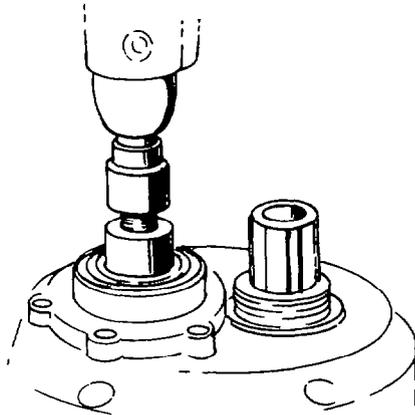

Fig. 264 — Installing Clamp Plate
- ah. Install the front drive shaft bearing clamp plate and retaining bolt (see fig. 264). Torque the retaining bolt to 720 – 773 Nm (530 – 570 lb.ft).